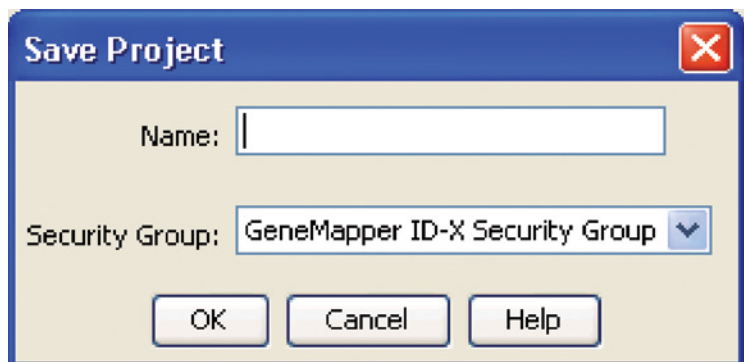

Figure 24. 'Save Project' Window.
9. If all analysis requirements are met, the 'Save Project' window will open (Figure 24).
9. If all analysis requirements are met, the 'Save Project' window will open (Figure 24)